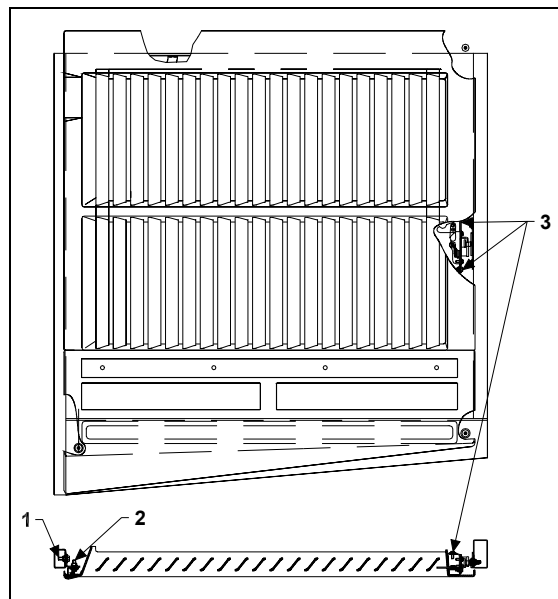

FIGURE 56: LATCH MECHANISM
1. Loosen the nuts (1, Fig. 56) holding the hinge to the vehicle structure to shift the door "IN or OUT" and "UP or DOWN".
2. Loosening nuts (2, Fig. 56) allows the door to be shifted "LEFT or RIGHT" and "UP or DOWN".